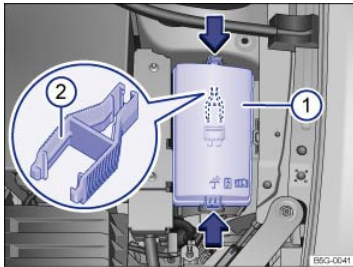

Fig. 172 In the engine compartment: Fuse box cover ① with tweezers ②.
- Press the release tabs in the direction of the arrows ⇒ Fig. 172 to unlock the fuse box cover ①.
In some vehicles, there are plastic tweezers for removing fuses on the inside of the fuse box cover ⇒ Fig. 172②.